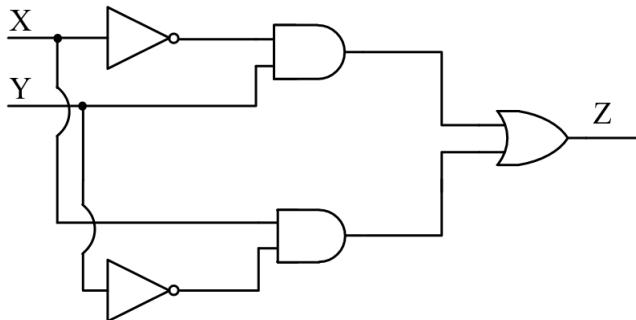

Fig. 3.12
24. Find the logic function implemented by the circuit given below in Fig. 3.12